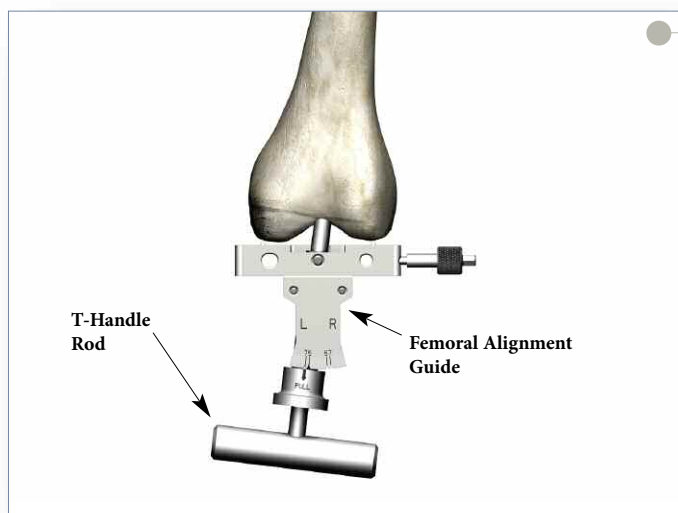

Figure 8
- ▶ Insert the Femoral Alignment Guide into the intramedullary hole (**Figure 8**), lining up the marks on the distal femur with the slots on the Femoral Alignment Guide.